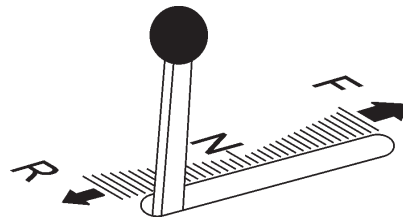

Figure 41. Transmission Engage/Disengage Lever (Reverse Position)
- When reverse movement is required, move the **travel lever** towards the **REVERSE** position (Figure 41). Placing the travel lever fully in reverse will move the saw backwards at its maximum reverse speed.